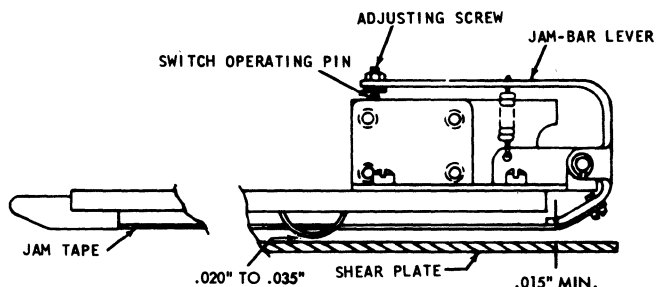

Figure 3-39. Jam Bar
1. A jam bar must be positioned for .020" to .035" clearance between formed points and shear plates over entire length of card transport. At the junction of jam bar and jam bar lever, a .015" minimum is permissible. See Figure 3-39.